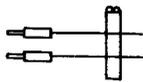

Fig. 14—240J Plug
2.14 **240J:** The 240J plug (Fig. 14) is equipped with two 30-cord tips and is used with 346-type jacks on step-by-step switches.